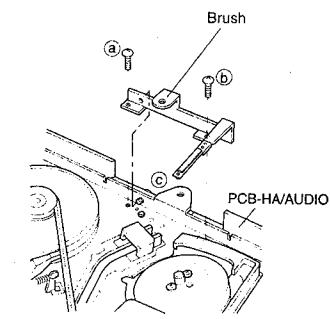

Fig. 2-9-1
2-9 Brush (Refer to the Fig. 2-9-1.)
- ① Attach the brush on the position shown in Fig. 2-9-1 and secure it with the screws Ⓐ and Ⓑ. Tighten screw Ⓒ.